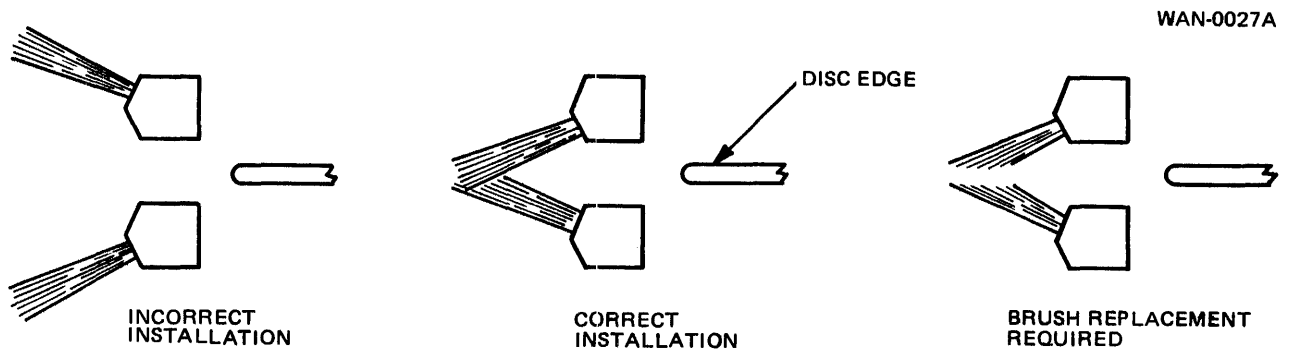

Figure 5-20. Disc Cleaning Brushes – Installation/Replacement Guide
5.4.3.9 Disc Cleaning Brush Assembly. The Disc Drive contains cleaning brushes that sweep the disc(s) once during the start operating cycle. The Series F units contain a set of two brushes which are used to sweep the disc surface. The Series T units contain two sets, each of which contains four brushes, one set being used to sweep the fixed disc and one set for the cartridge disc. If the brushes are not in good condition (bristle tips are not touching), they must be replaced. See Figure 5-20 for correct mounting of the cleaning brushes.